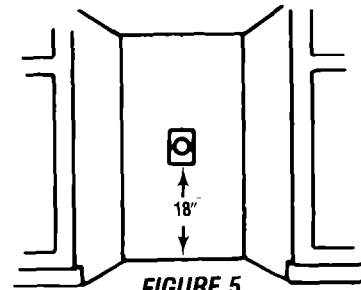

FIGURE 5
4. The recess must have a grounded outlet 18" min. (45 cm) above the floor as shown in Figure 5.